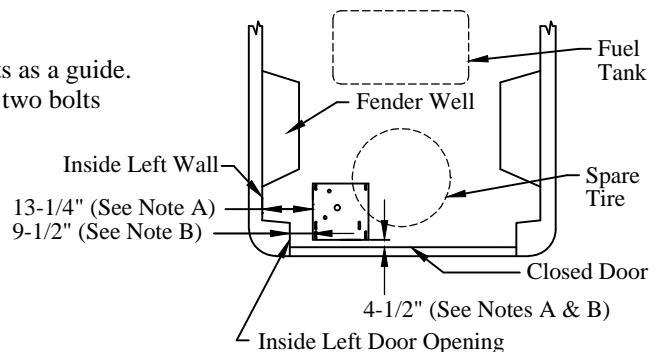

Figure 3: Base plate location and obstructions.
- 5. Position** the base plate in the van as described in notes A or B (Figure 3). The base plate should be parallel with the floor ribs, not the van doors.